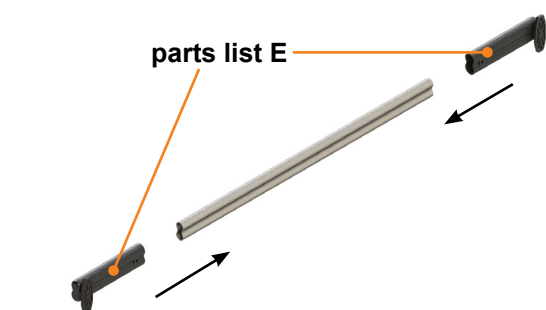

Fig.19
NOTE: Be sure to install two Parts List E sleeves (Fig.19). See the Mounting Options section on page 3 (Fig. 4).
2. Slide the sleeves over the ends of the push bar (Fig. 19)